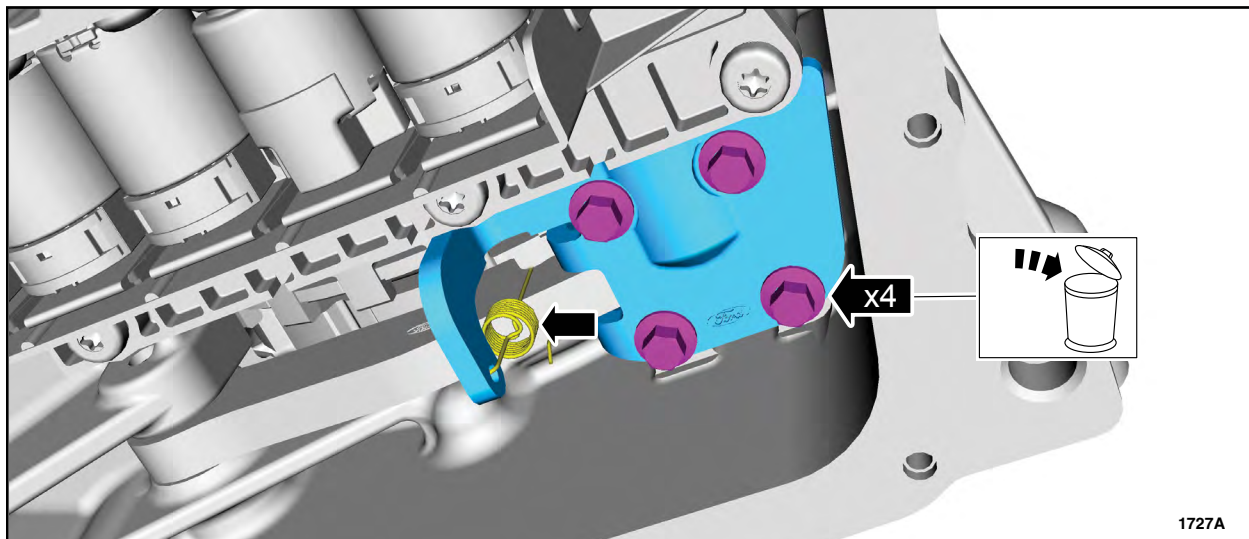

FIGURE 1
2. Remove the park pawl return spring and save for reuse. See Figure 1.
3. Remove and discard the four bolts and the park rod actuating plate. See Figure 1.